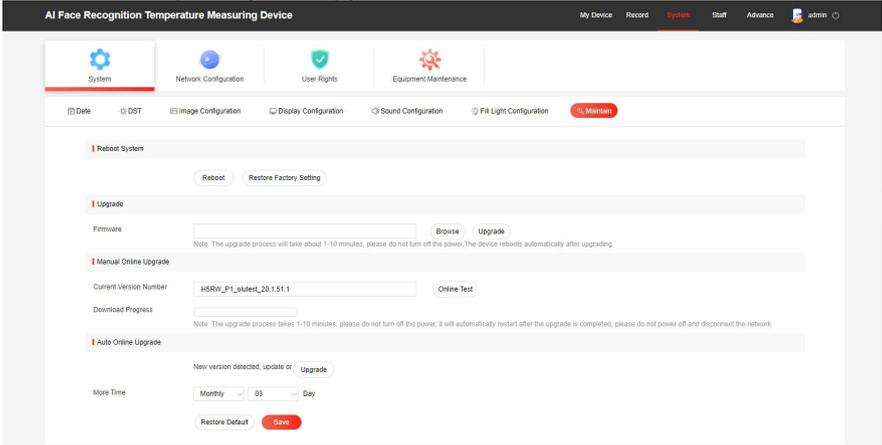

Figure 7-11
Step 1: After logging in to the web page, click "System → System → Maintain" to enter the maintain interface, as shown in Figure 7-11 below. Here you can reboot the device, restore the factory settings, and upgrade.